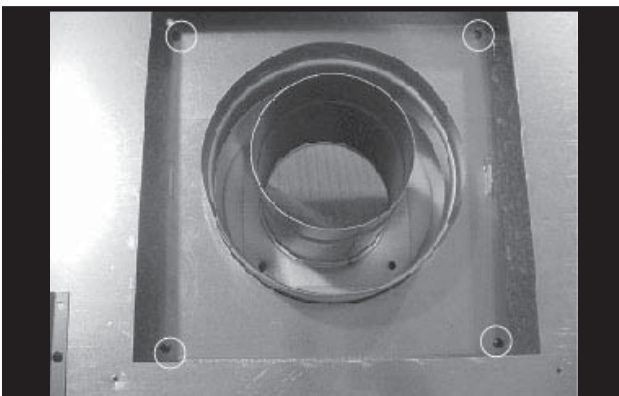

Figure 7 - Inner Plate, Top of Appliance
- c. Remove the four screws holding the inner plate surrounding the flue. See Figure 7. Remove the inner plate and discard.